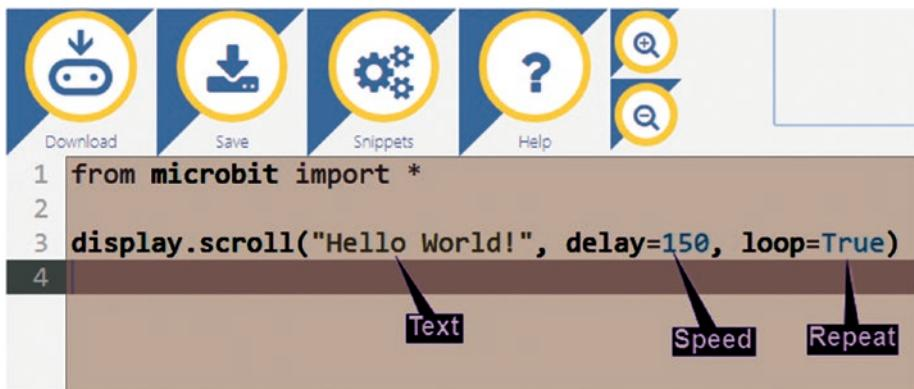

Figure 1-23. The 'Hello World' code on the code editor
4. Figure 1-23 shows the code window.